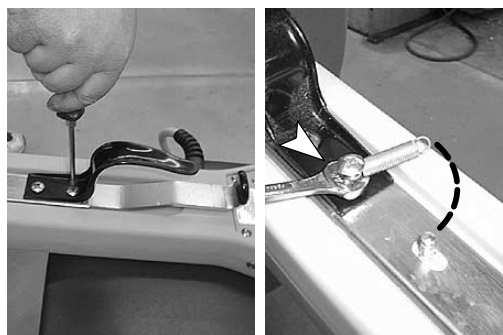

Fig. 16
18. Replace cord hooks. Reconnect spring and tighten jam nut as shown (Figure 16)